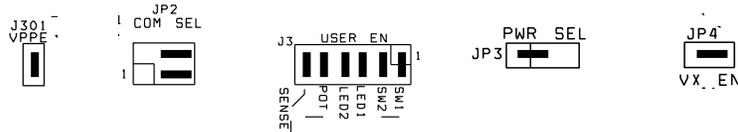

Figure 1: DEMO9RS08KB12 Default Option Settings
1. Verify the option jumpers are set in default positions. Refer to Figure 1 above.
- Ensure the option jumpers are set to default positions. Refer to Figure 1 above.